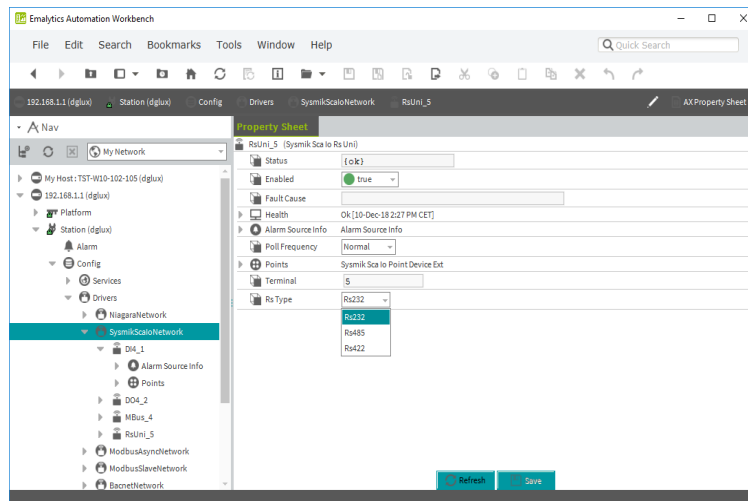

Figure 3-16 IB IL RS UNI-PAC interface parameterization
- COM4: the IB IL RS UNI-PAC Inline terminal in terminal position 4 serves as an interface for the ModbusAsyncNetwork; to this end, interface standard RS-485 is selected in the terminal component's Property Sheet, in the SysmikScaloNetwork, under property Rs Type (see Figure 3-16).